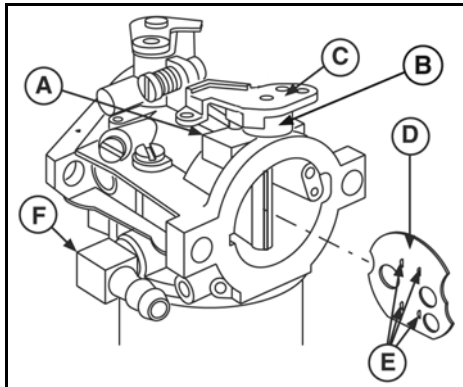

Figure 49
- Install new foam seal and return spring on choke shaft (C, Figure 49) with straight end of spring against choke shaft lever (B).
- Insert choke shaft assembly into carburetor body and engage large end of return spring on anchor pin or boss (A). Lift choke slightly and turn counterclockwise until stop on lever clears anchor pin or boss, then push shaft down.